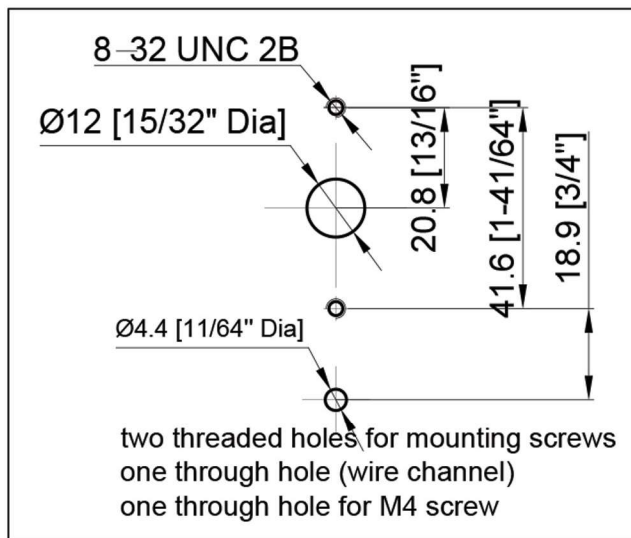

Fig. 2
1. Drill and tap two mounting holes for two US 8-32 screws, one wire channel and one hole for one M4 screw on the safe front door or plate. Make sure four holes' center should be in one vertical line. (Fig. 2)